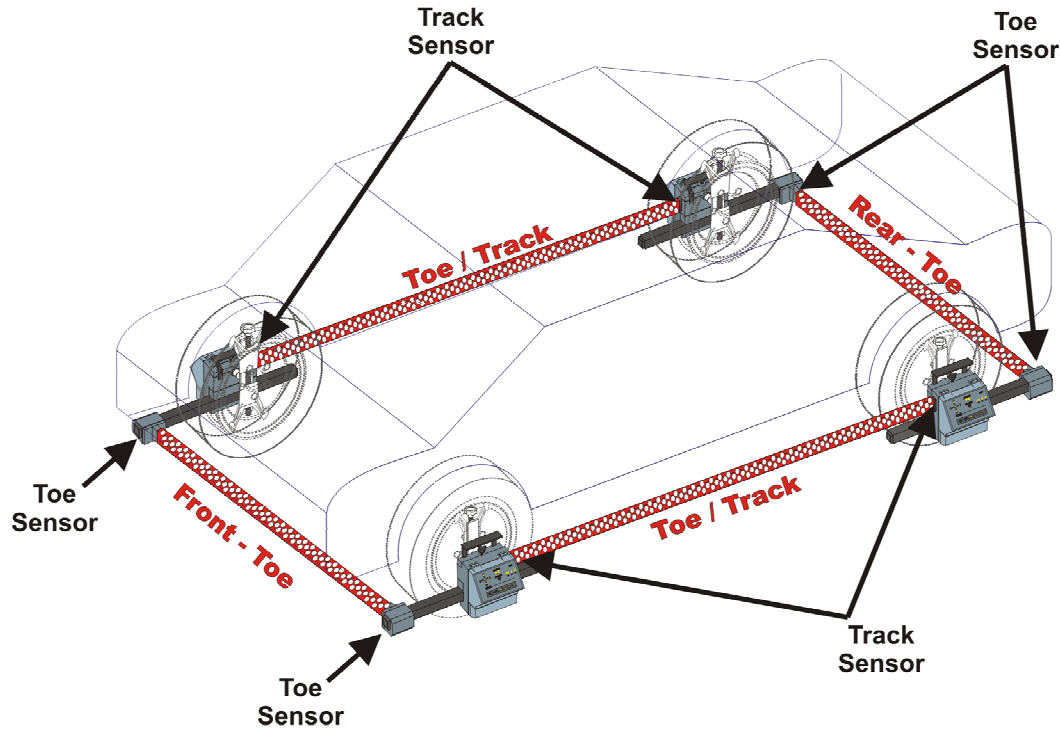

Figure 2-7. Wheel Units – On Vehicle Sensor Positions
- 2.7.4 Sensor Units. Wheel alignment systems come paired in 2, 6 or 8 sensors, with the lower numbers limiting the number of suspension angles that can be measured. This unit is an 8-sensor system that measures completely around the vehicle. Refer to Figure 2-7.